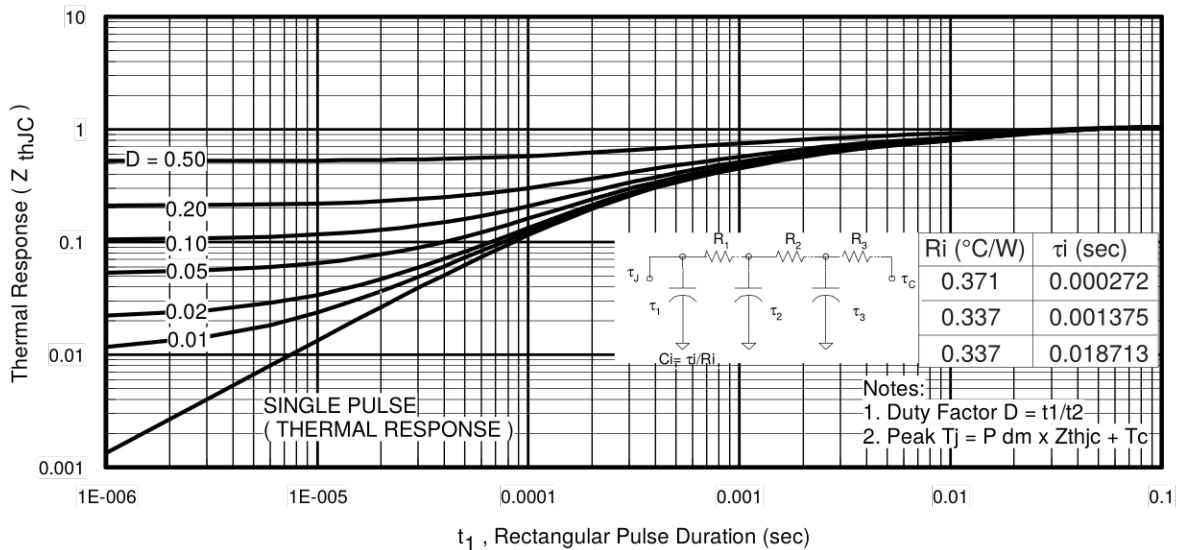
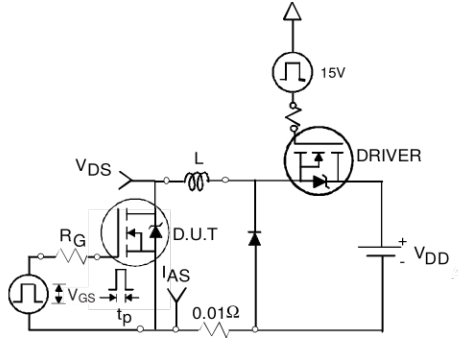

Fig 11. Maximum Effective Transient Thermal Impedance, Junction-to-Case
Fig 12a. Unclamped Inductive Test Circuit
3. Equation below based on circuit and waveforms shown in Figures 12a, 12b.
$Z_{thJC}(D, t_{av})$ = Transient thermal resistance, see figure 11)
- ① Repetitive rating; pulse width limited by max. junction temperature. (See fig. 11).
- ② Limited by T_{Jmax} , starting $T_J = 25^\circ\text{C}$, $L = 0.04\text{mH}$, $R_G = 25\Omega$, $I_{AS} = 75\text{A}$, $V_{GS} = 10\text{V}$. Part not recommended for use above this value.
- ③ Pulse width $\leq 1.0\text{ms}$; duty cycle $\leq 2\%$.
- ④ C_{oss} eff. is a fixed capacitance that gives the same charging time as C_{oss} while V_{DS} is rising from 0 to 80% V_{DSS} .
- ⑤ Limited by T_{Jmax} , see Fig.12a, 12b, 15, 16 for typical repetitive avalanche performance.
- ⑥ This value determined from sample failure population. 100% tested to this value in production.
- ⑦ This is only applied to TO-220AB package.
- ⑧ This is applied to D²Pak, when mounted on 1" square PCB (FR-4 or G-10 Material). For recommended footprint and soldering techniques refer to application note #AN-994.